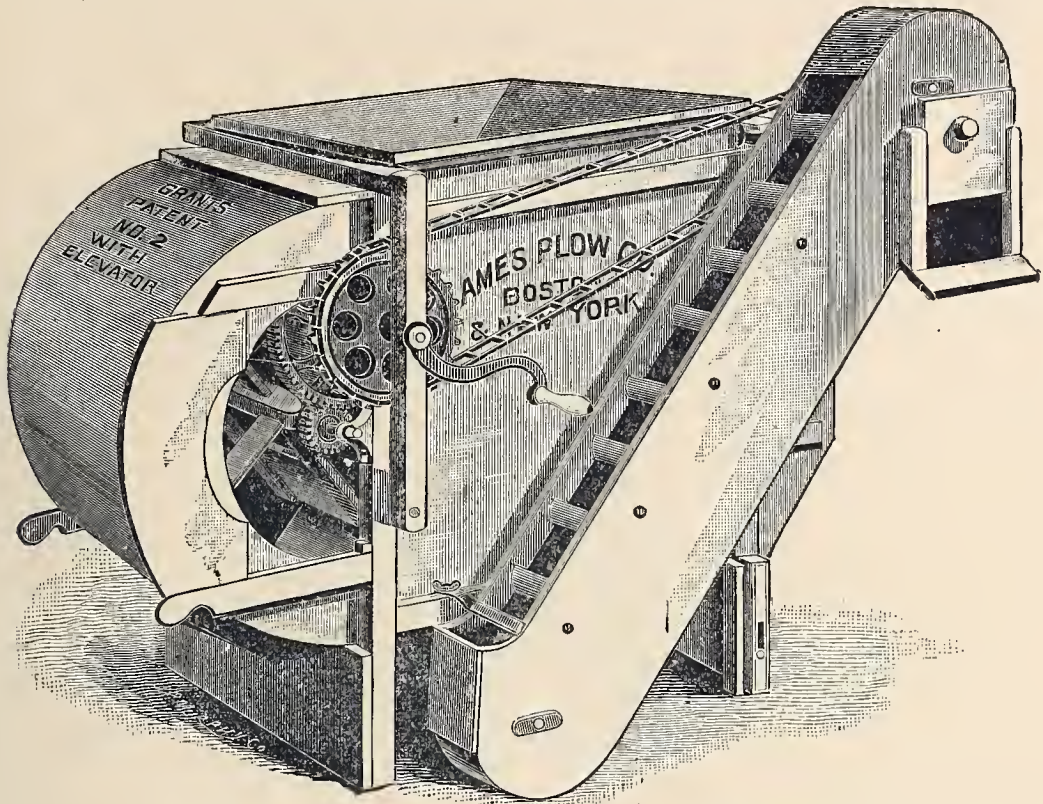

Fig. B. 425.—Fan Mill with Bagging Elevator.
*The Bagging Elevator for Fan-Mills* is shown in the illustration at *Fig. B 425*. This attachment we can rig to any of our Grain Fans and it conveys the seed up from the bottom of the Mill and drops it into the bag or sack held under the outlet at top of elevator. It is a very convenient attachment.